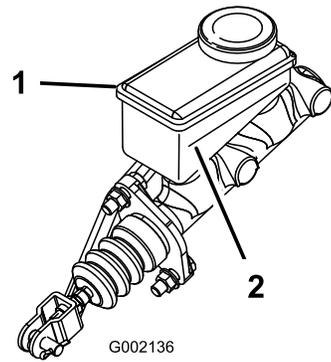

Figure 65
- B. Add DOT 3 brake fluid to the reservoir until the fluid level is above the Minimum line (Figure 65).
5. Look at the outline of the fluid level at the side of the reservoir (Figure 65).